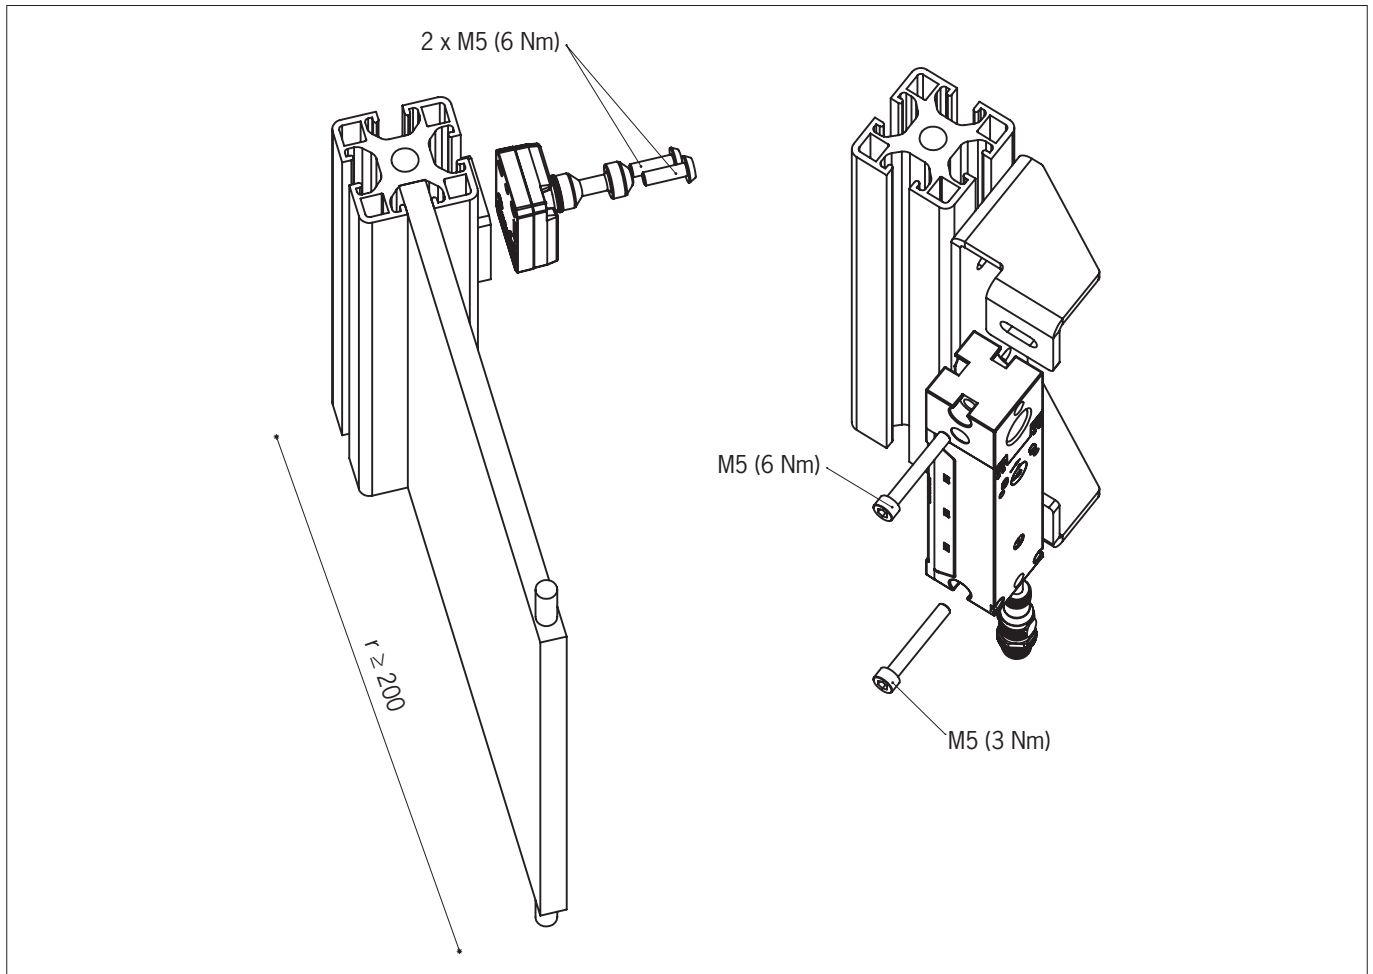

Fig. 3: Installation example
- Observe the tightening torque for fastening the switch and the actuator (see Fig. 3):